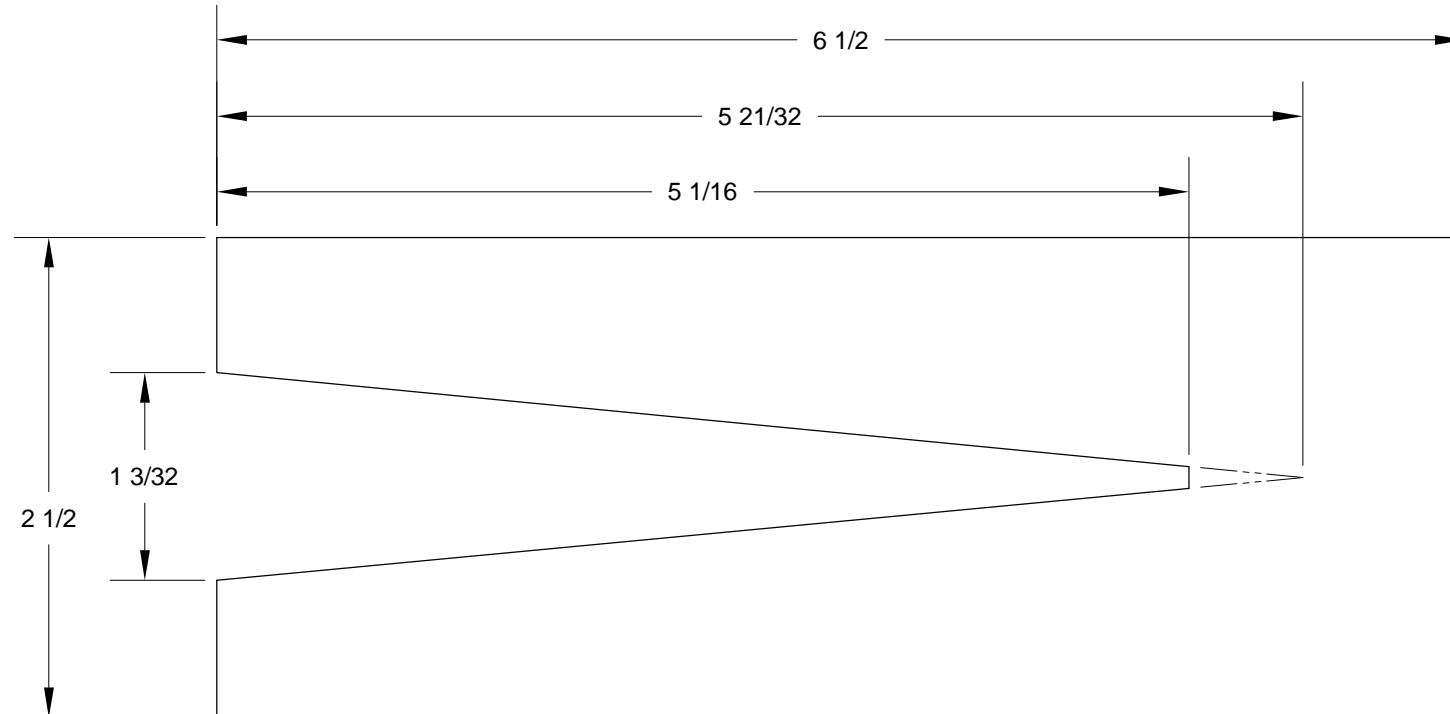

FIGURE 1: TRIM TAB CLAMP BLOCKS
Step 1: Make six trim tab clamping blocks out of a 3/4" thick wood board using the dimensions in Figure 1.